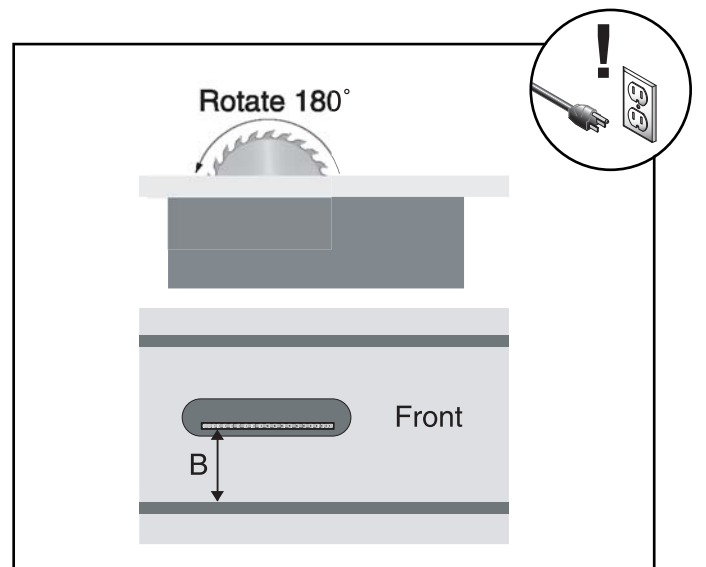

Figure 60. 90° blade parallelism measurement.
3. **Rotate the blade 180°** and measure the distance (B) between the miter slot and the back of the blade as shown in **Figure 60**.